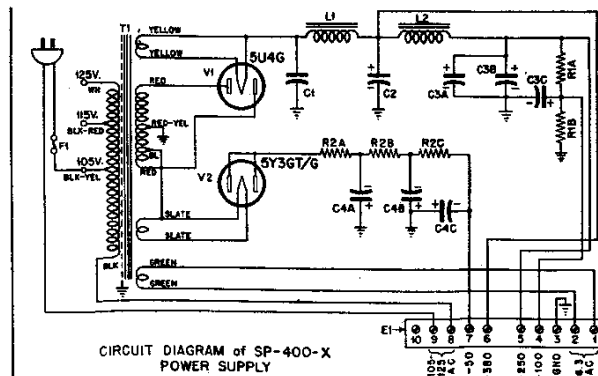

FIG. 10—
The Power Supply furnishes "A," "B" and "C" voltages for the Receiver. The "A," or heater voltage, is 6.3 volts AC obtained from a separate secondary winding (1-2) on the power transformer (T1, Fig. 10). "B" voltage is obtained from the center-tapped high-voltage secondary (7-8-10) connected to the plates of the "B" rectifier tube (V1). After this voltage is rectified, it is filtered by the combined action of the first filter choke (L1) and the two filter capacitors C1 and C2. This provides 380 volts DC for the plates of the power output tubes in the Receiver. Further filtering by the second filter choke (L2) and the first two sections of capacitor C3 provides 250 volts DC for the plates of the remaining tubes in the Receiver. Approximately 100 volts DC for the screen grids of the Receiver tubes is obtained from the tap on the bleeder resistor (R1), which is by-passed by the remaining section of capacitor C3. Negative "C" voltage is obtained from a tap (9) on the high-voltage secondary connected to the filament of the "C" rectifier tube (V2). The rectified output from the plates of tube V2 is filtered by the three sections of resistor R2 and the three sections of filter capacitor C4. When connected to the Receiver, the voltage at the end of this filter is approximately minus 50.